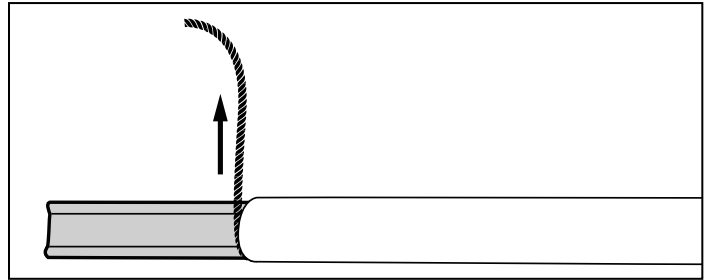

Figure 15-2
15.3.2. SEPARATE METALLIC BRAID AND FORM A PIGTAIL (Figure 15-2)